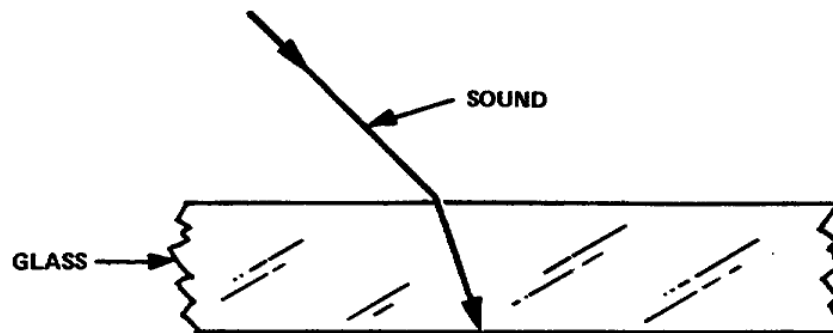

Figure 1-14. Sound traveling from air to glass
c. Refraction. As it passes from one medium into another, sound changes speed and direction. As sound travels from air into glass, the speed increases and its direction changes. The denser the medium, the faster the speed of sound. Sound travels about 1127 feet per second, or 343 meters a second (fig 1-14 and 1-15).